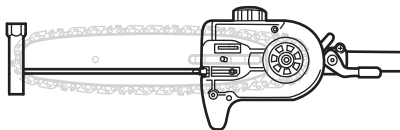

Fig. 35c
4. Turn the tension screw (D12) clockwise with the slotted screwdriver (E6).and make sure the tension pin(D11) is adjusted to its closer position. (See Fig. 35c)